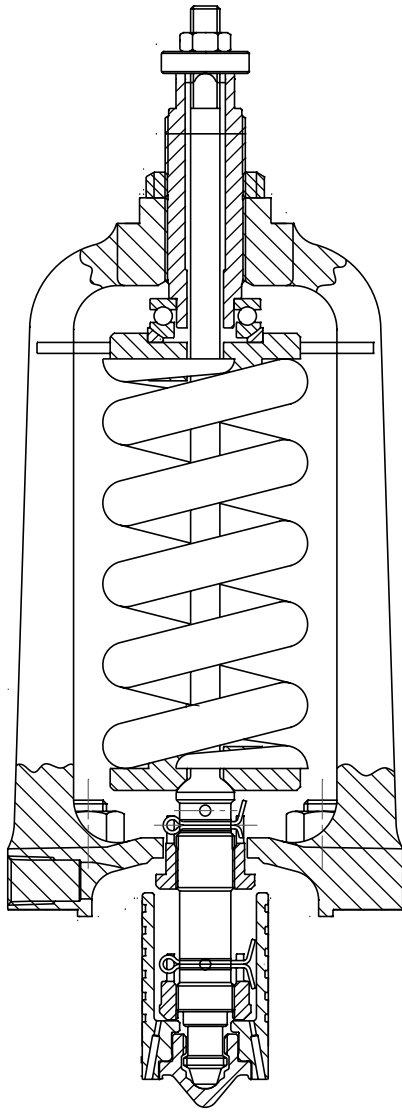

Figure 19: Yoke and Spring Assembly
3. Remove the yoke and spring assembly (See Figure 19), from the base, being careful not to damage the disc.
8. Reassemble the yoke and spring assembly (See Figure 19) into the base, being careful not to damage the disc. Locate the yoke vent to the side of the valve. The lug on the top spring washer should be on the right side of the valve when facing the outlet.